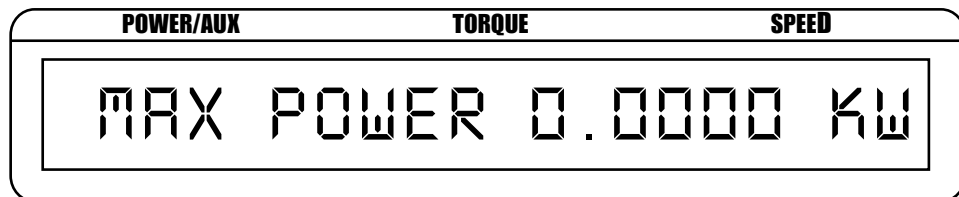

Figure 4-3 Max Power Setup Display
1. Press and release SHIFT. The Max Power Setup Display (as seen in *Figure 4-3*) appears.